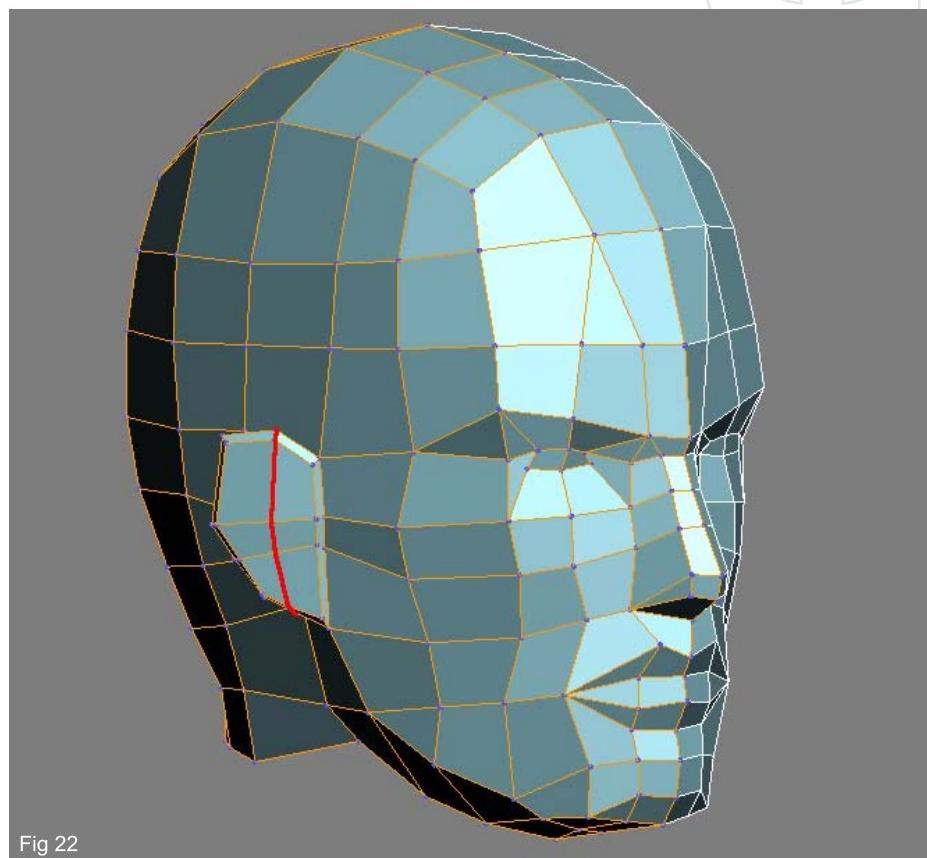

Fig 22
22. We can now attach the ear to the side of the head using the same technique by first moving it into position, snapping the verts together and then welding them up. To give the ear a better shape scale the outward faces down a little and then add in a vertical subdivision using the "Ring/Connect" tools and move the extra verts to form more of a curve to the outside (Fig22).